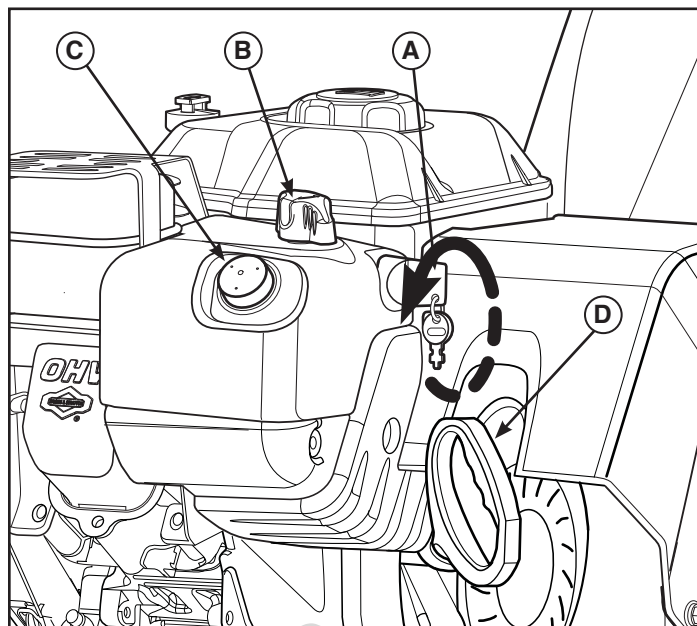

Figure 5
3. Insert the ON/OFF key (A, Figure 5) and turn to the ON position or insert the Push/Pull key, if equipped.
4. Turn the choke knob (B) fully clockwise if engine is cold.
6. **Rewind Start:** Firmly hold the starter cord handle (D, Figure 5). Pull the starter cord slowly until resistance is felt, then pull rapidly.